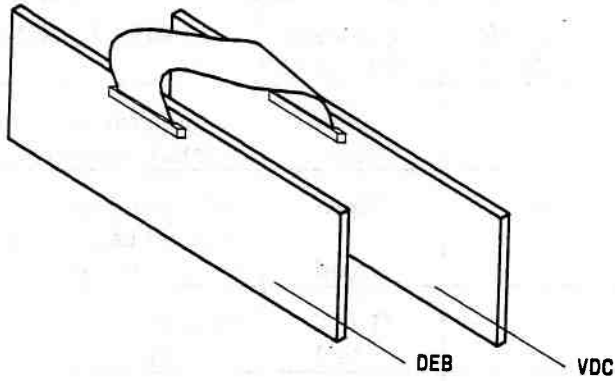

Figure 3-52. Connecting the 50-Pin Cable
17. Align and insert the 50-pin connector cable to the VDC (Figure 3-52).
19. Connect the other end of the 50-pin connector cable to the DEB (Figure 3-52). The cable should contain no twists. Secure the DEB with the screw removed from the slot cover.